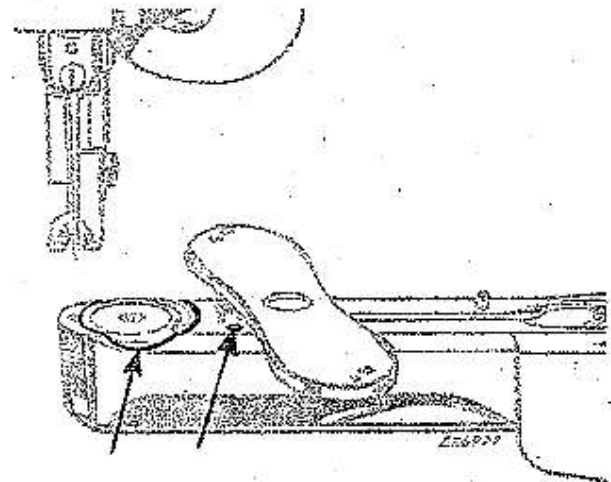
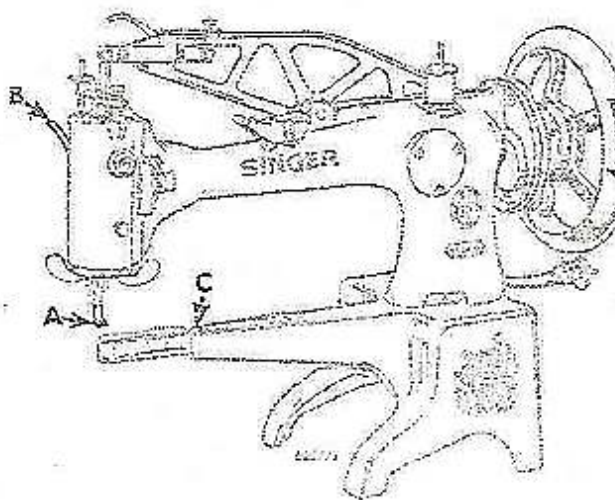
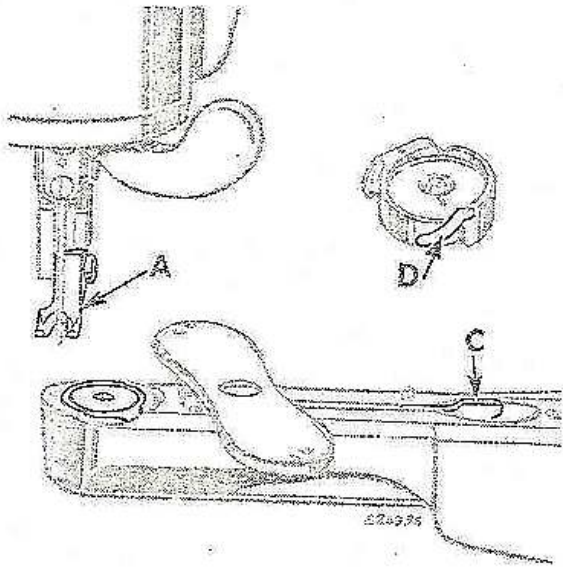

Fig. 4. Oiling Shuttle Race
Fig. 5. Operating Machine
Fig. 7. Tacking out the Shuttle.
To oil shuttle race, raise needle bar to its highest point and lift feeding foot A, Fig. 5 by moving lifter B upward.
Press down lever C, Fig. 5 and swing needle plate to position shown in Fig. 4.
Apply a drop of oil to the face of shuttle race and to the hole shown by arrow in Fig. 4.
1. Raise feeding foot A, Fig. 5 by moving lifter B upward.
Raise needle bar to its highest point and lift feeding foot **A**, **Fig. 7** by moving lifter **B**, **Fig. 5** upward.
Press down lever **C**, **Fig. 7** and swing needle plate around as shown.
NOTE: For **29K72 machine**, move bobbin retaining spring **D**, **Fig. 7** outward before taking out the bobbin.